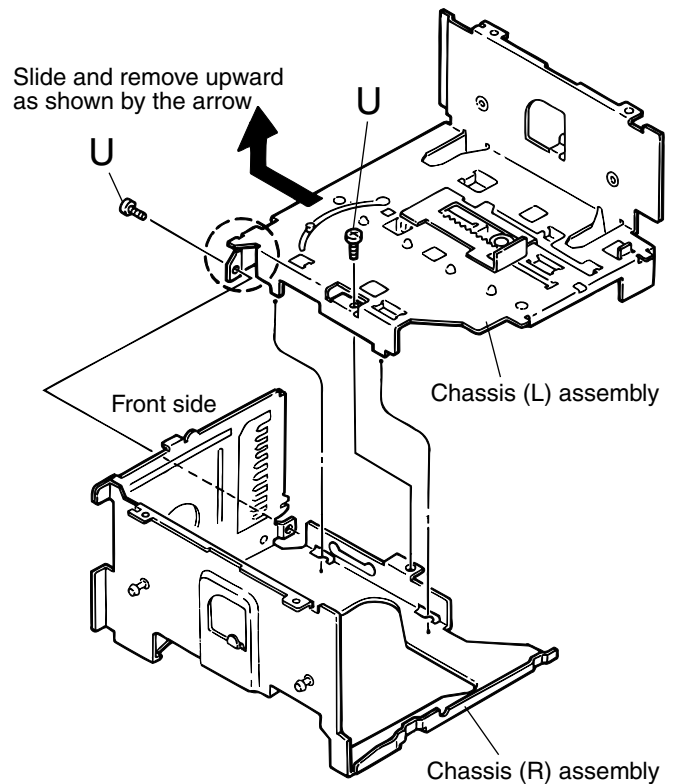

Fig. 29
■ Separation of the chassis (L) assembly and chassis (R) assembly (See Fig.29)
1. Remove the two screws **U** retaining the chassis (L) and (R) assemblies.
2. Slide the chassis (L) assembly toward the front and detach it, then remove the chassis (L) upward.